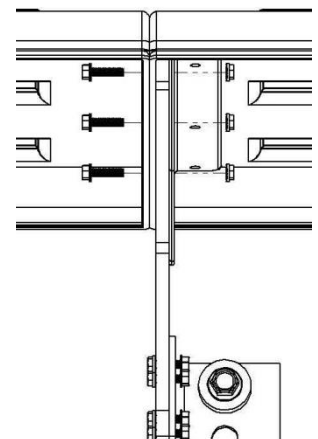

Figure 7
- E. Install center bracket as close to where the two fenders join together as possible (Figure 7).